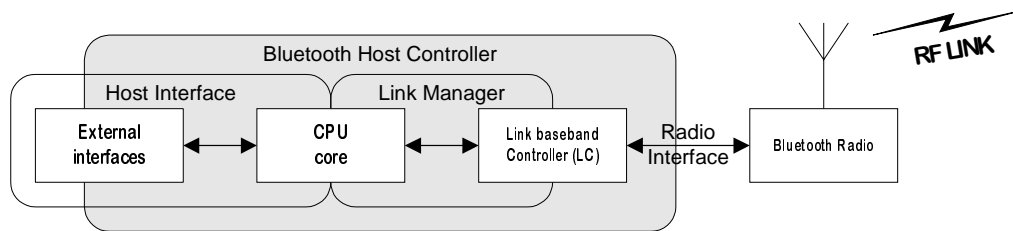

Figure 1.3: Bluetooth Hardware Architecture Overview.
A general overview of the Bluetooth hardware is outlined in Figure 1.3 on page 526. It consists of an analog part – the Bluetooth radio, and a digital part – the Host Controller. The Host Controller has a hardware digital signal processing part –the Link Controller (LC), a CPU core, and it interfaces to the host environment. The hardware and software parts of the Host Controller are described below.